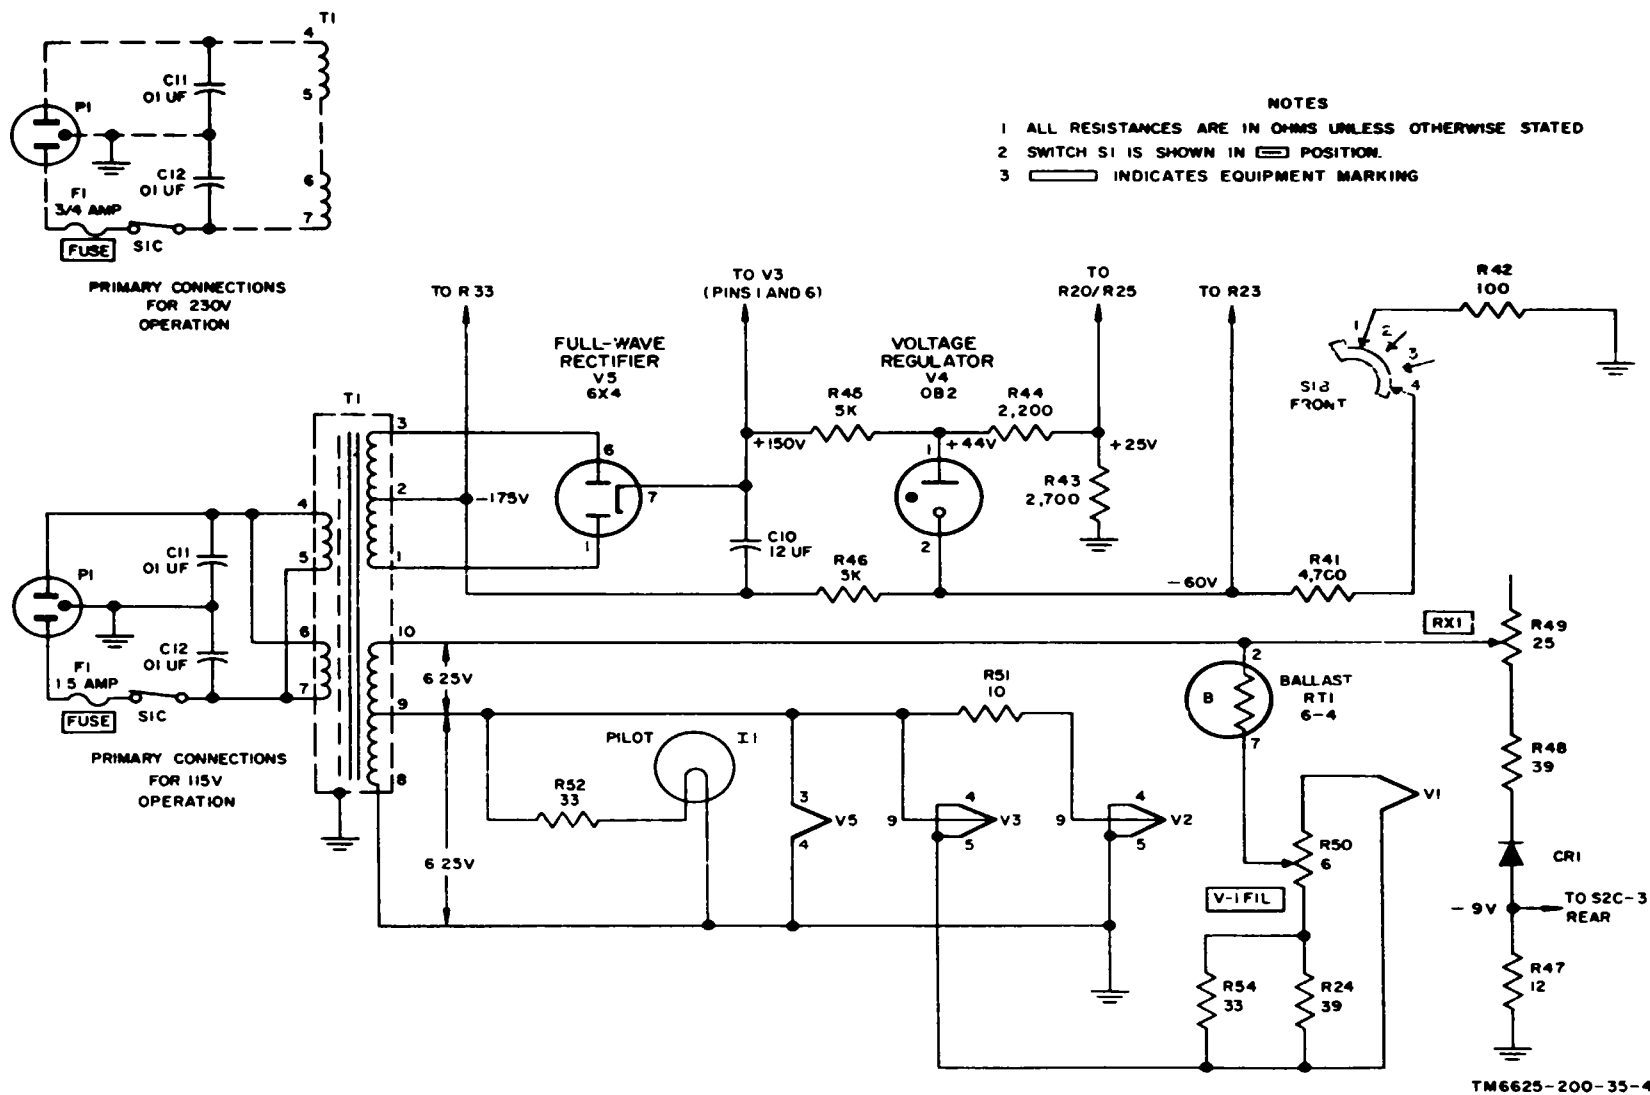

Figure 5-7. Power supply, partial schematic diagram.
a. Impact Power. The ac voltage (115 or 230 volts) is fed from the power source, through power connector PI (fig. 5-7), FUSE F1, and switch SIC (part of FUNCTION switch S1 (SELECTOR switch in Multimeter ME-26A/U)) to the primary of transformer T1.
(2) For a 115-volt ac voltage input (fig. 5-7), the two primary windings are connected in parallel. For a 230-volt ac voltage input, the two primary windings are connected in series.
(3) Capacitors C11 and C12 prevent spurious voltage, which may be present in the power source, from affecting the equipment. Capacitor C11 and C12 also prevent noise generated in the multimeter from entering the powerline.